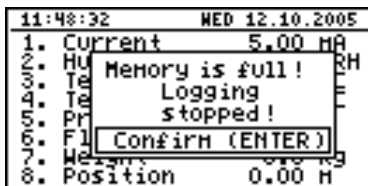

Fig. 7.15. Warning in "until full" recording mode
**"until full"** - once the entire available memory is filled with recorded measurement results the recording will be stopped and a warning message (Fig. 7.15) shall be displayed; this warning message must be confirmed with the [ENTER] key. This warning shall be repeated when the unit is switched on. Instead of **"Time left"** parameter in the **"Device information"** menu the display will show the **"Logging stopped"** message. The recording will be restarted only when the collected measurement results are downloaded to a PC (once unit's memory is free). If the collected measurement results will be downloaded to a PC before memory is full, the warning message will not be displayed.